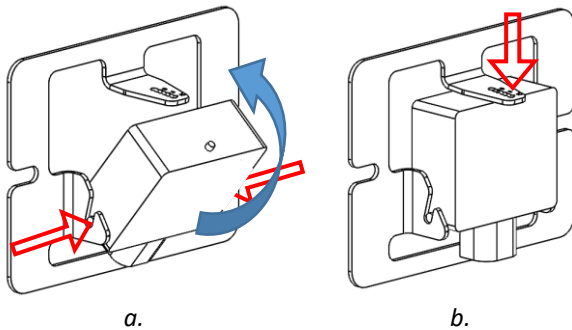
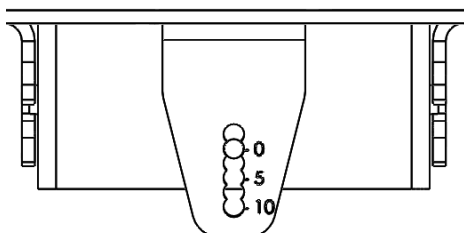

Figure 14: Sensor Installation
Figure 15: Sensor Alignment from -2.5 degrees to +10 degrees
19. ☐ For 2019-2024, install the front radar sensor into the sensor carriage by locating the protrusions on each side (**Figure 14, A**) and rotating the sensor into the top of the carriage at the 0 degree notch (**Figure 14, B and Figure 15**).